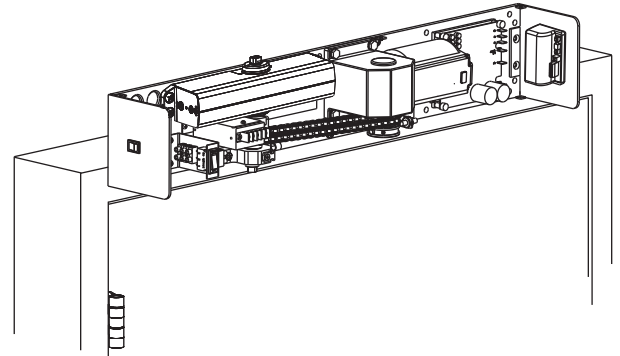

Figure 5
B. Mount unit to frame. (Figure 5)